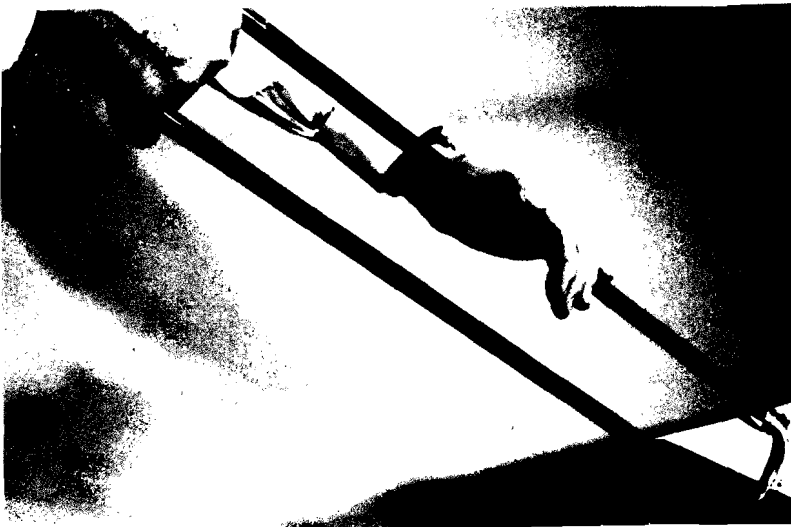

Figure 87
- c) Holding the slide rigid by the cross bar (hand slide bar), "rest" the slide bow knob on the end of a solid table or desk (Figure 87).